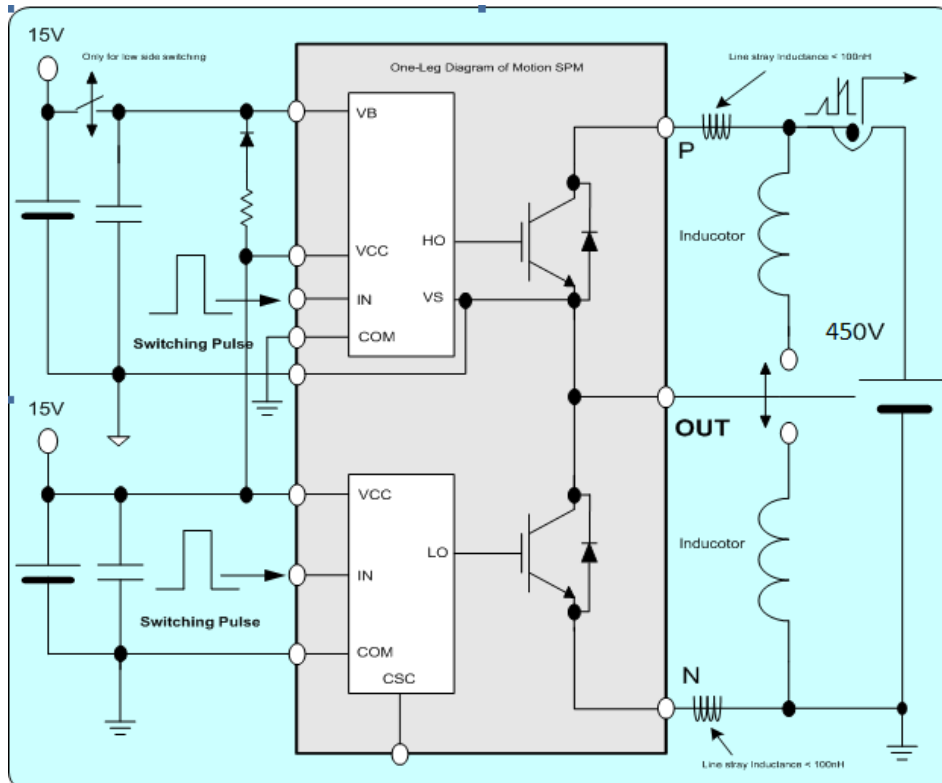

Figure 6. Switching Evaluation Circuit
- t_{ON} and t_{OFF} include the propagation delay time of the internal drive IC. $t_{\text{C(ON)}}$ and $t_{\text{C(OFF)}}$ are the switching times of IGBT itself under the given gate driving condition internally. Refer to Figure 6 for detailed information.